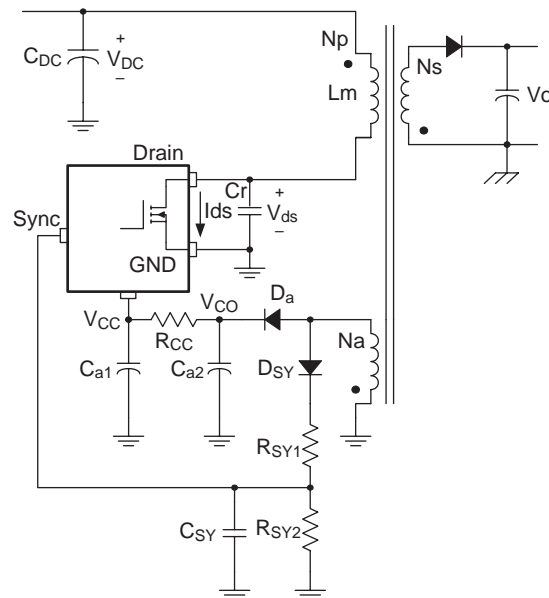
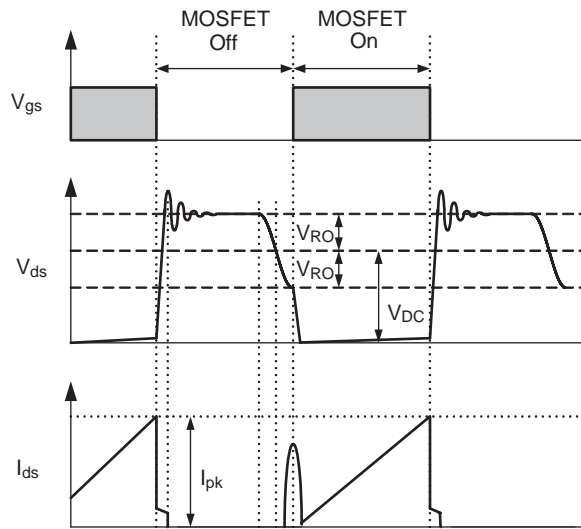
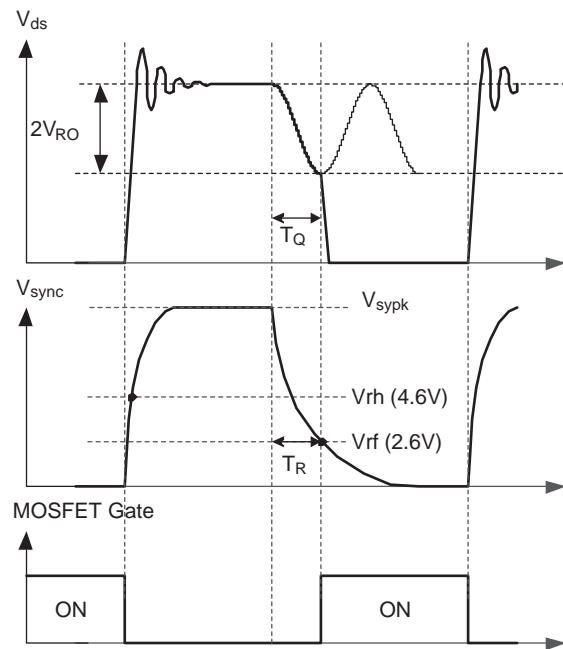

Figure 6. Synchronization Circuit
Figure 7. Quasi-Resonant Operation Waveforms
Figure 8. Normal Quasi-Resonant Operation Waveforms
2. Synchronization: The FSCQ-Series employs a quasi-resonant switching technique to minimize the switching noise and loss. In this technique, a capacitor (C_r) is added between the MOSFET drain and the source as shown in Figure 6. The basic waveforms of the quasi-resonant converter are shown in Figure 7. The external capacitor lowers the rising slope of the drain voltage to reduce the EMI caused when the MOSFET turns off. To minimize the MOSFET's switching loss, the MOSFET should be turned on when the drain voltage reaches its minimum value as shown in Figure 7.
The minimum drain voltage is indirectly detected by monitoring the V_{cc} winding voltage as shown in Figure 6 and 8. Choose voltage dividers, R_{SY1} and R_{SY2}, so that the peak voltage of the sync signal (V_{syPk}) is lower than the OVP voltage (12V) to avoid triggering OVP in normal operation. It is typical to set V_{syPk} to be lower than OVP voltage by 3–4V. To detect the optimum time to turn on MOSFET, the sync capacitor (C_{SY}) should be determined so that T_R is the same with T_Q as shown in Figure 8. The T_R and T_Q are given as, respectively: